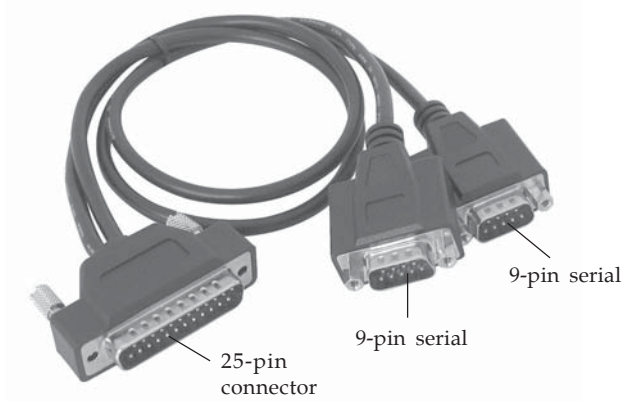

Figure 2. 2-port Fan-out Cable
9. Connect the **2-port fan-out cable** to the board's **25-pin connector**. See **Figure 2** on page 3 for more details.